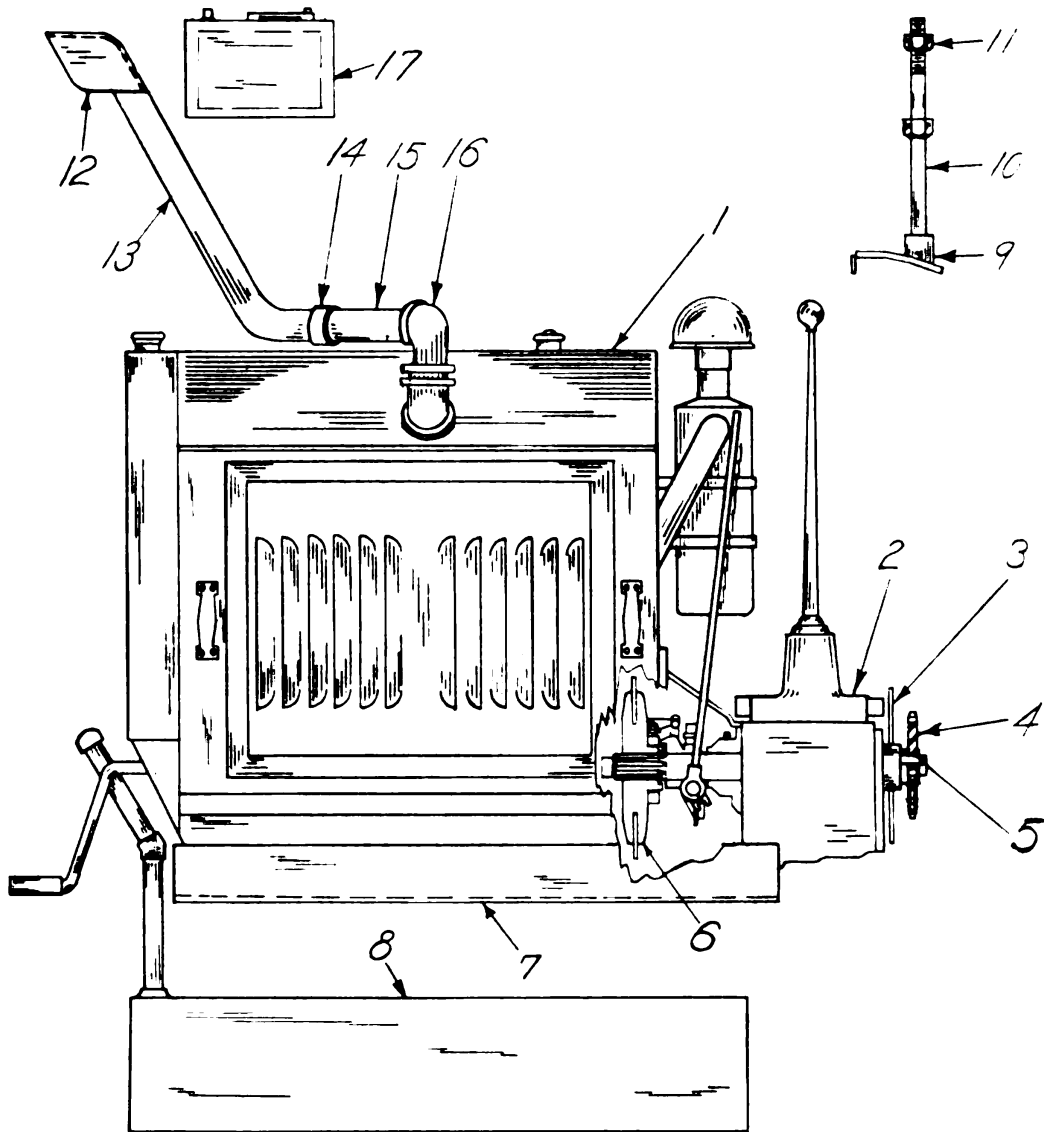
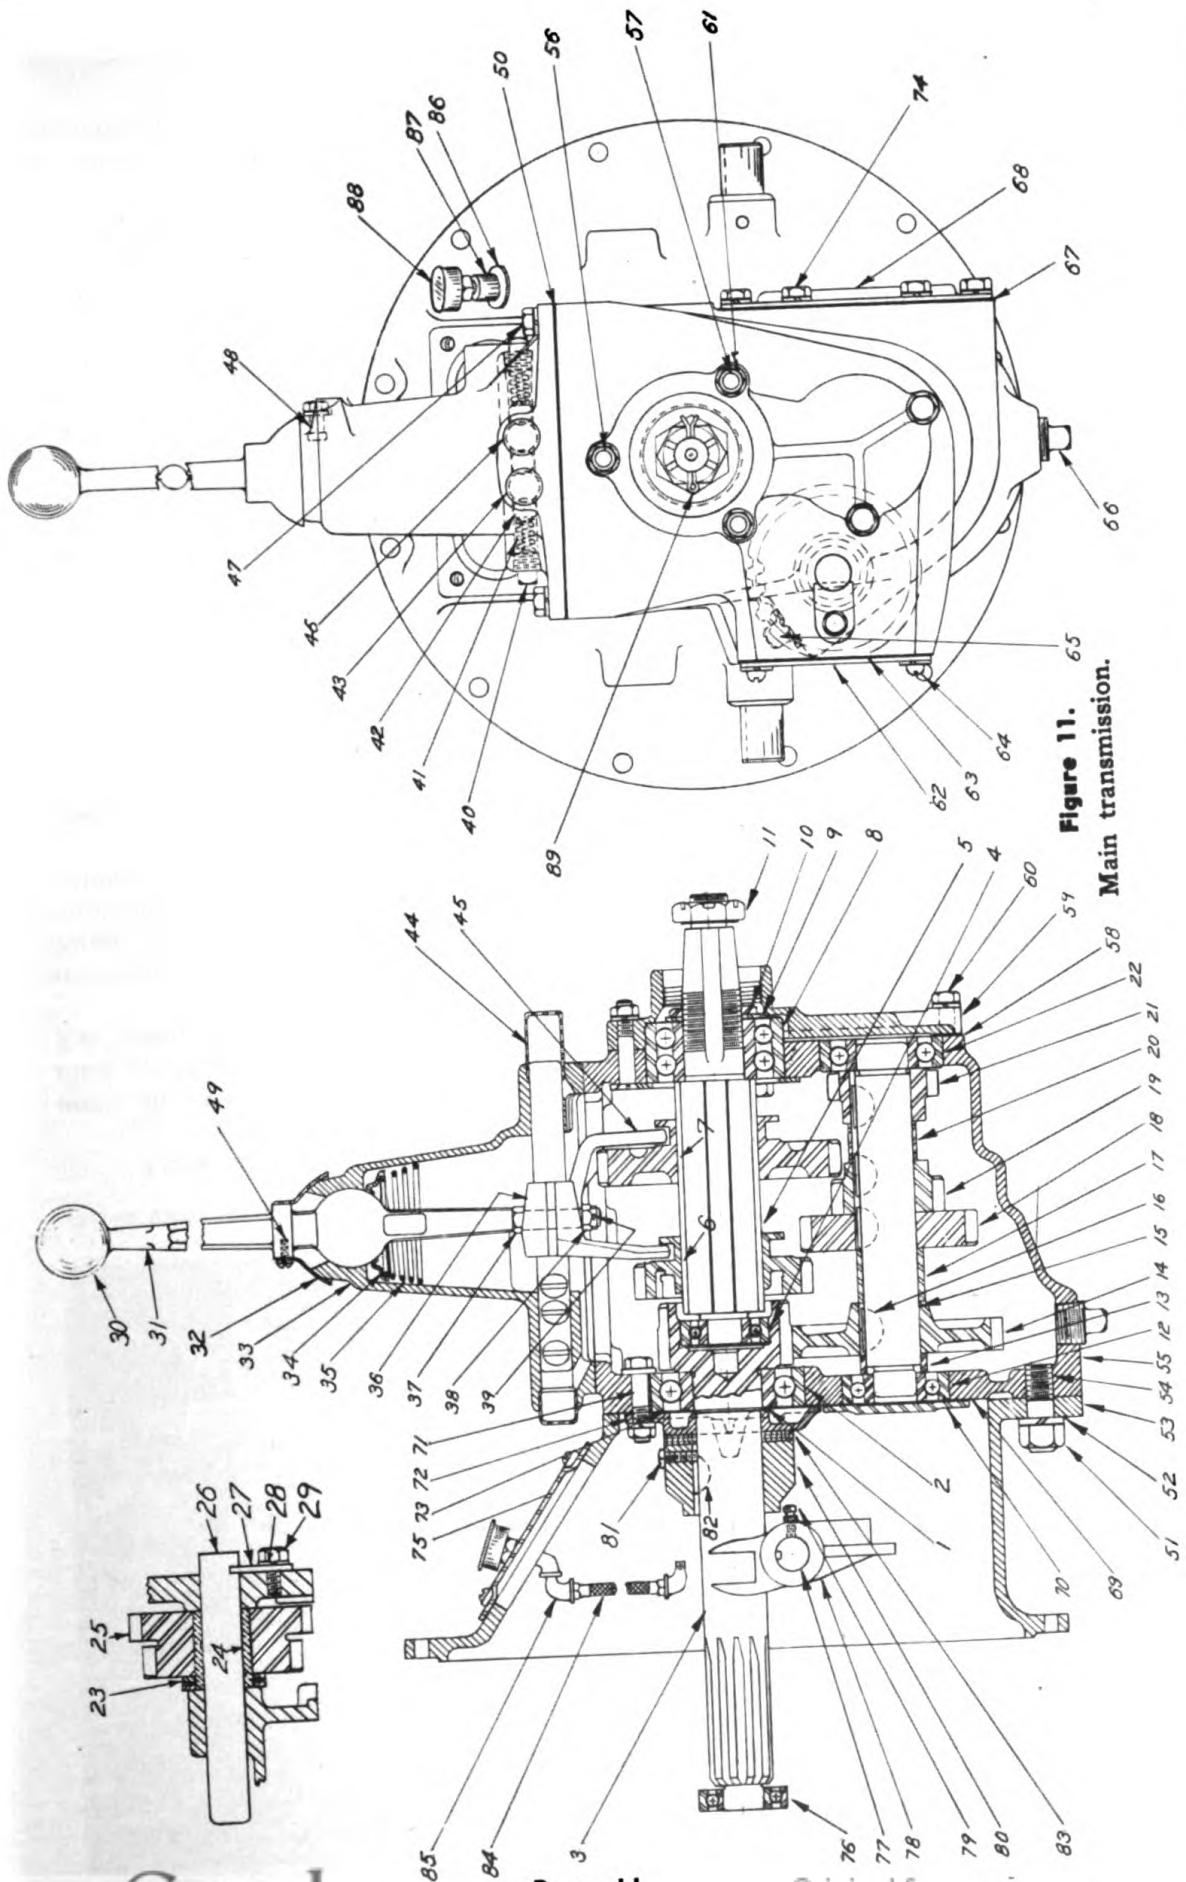

Figure 3.
Figure 11.
The power unit (Figure 3) consists of a Buda Model H. P. 217 gasoline engine, C S 110 Twin Disc Clutch and Fuller Model S U Transmission.
The clutch is bolted to the engine flywheel and rides on the high speed splined drive shaft (3) figure 11 of the transmission. The clutch (6 figure 3) is located between the engine and transmission within the bell housing.
Mounted on the adjusting yoke (14) are four finger levers, (9) the arms of which attach to the sliding sleeve (8) by lever links (7). The sliding sleeve has the throwout collar (2) assembled to it. This collar (2) has two lugs which are engaged by the throwout fork (78) figure 11. The fork is bolted to the clutch hand lever control shaft (77).
(20) Master Transmission
This is a standard shift pattern—Fuller Model S U truck type transmission. The transmission has a gear shift lever (31) figure 11, which gives operator the following selective traveling speed range.
Drive for the transmission is provided by the drive gear and shaft (3) figure 11 which is a one piece part supported at one end, by a ball bearing (76) (pilot bearing), located in recessed center of the engine flywheel and a ball bearing (2) in front of transmission where shaft enters.
Two sliding gears (6) (7) figure 11 for the selection of speeds are assembled on the mainshaft. (5). Two shifting forks (36) (45) which are controlled by the shift lever (31) engage these gears.